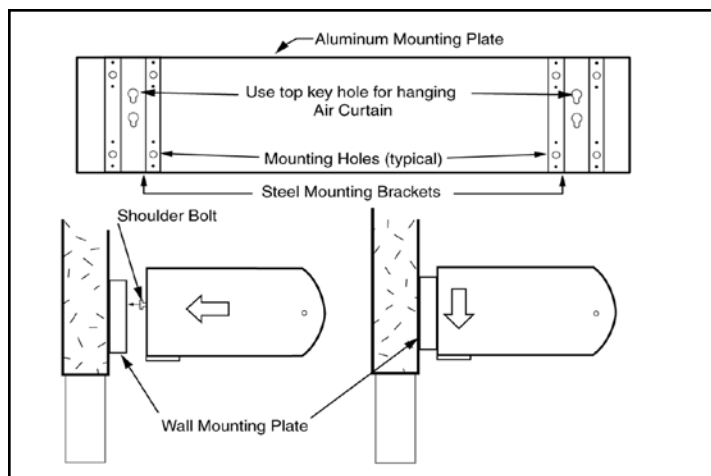

FIGURE 4 - Installing Air Door on Wall Mounting Plate
- I. There are two sets of keyhole slots on the wall mounting plate. *In low overhead installations, the air door may be staged in the lower keyholes to provide clearance for electrical wiring and then moved to the higher key holes after completion.* Raise the air door with the discharge opening facing down toward the floor. While holding the air door level, slide the heads of the shoulder bolts into the larger hole of the keyhole slots of the mounting plate. Lower the air door into place, keeping both ends level, allowing it to rest flush with the mounting plate. **See Figure 4.**